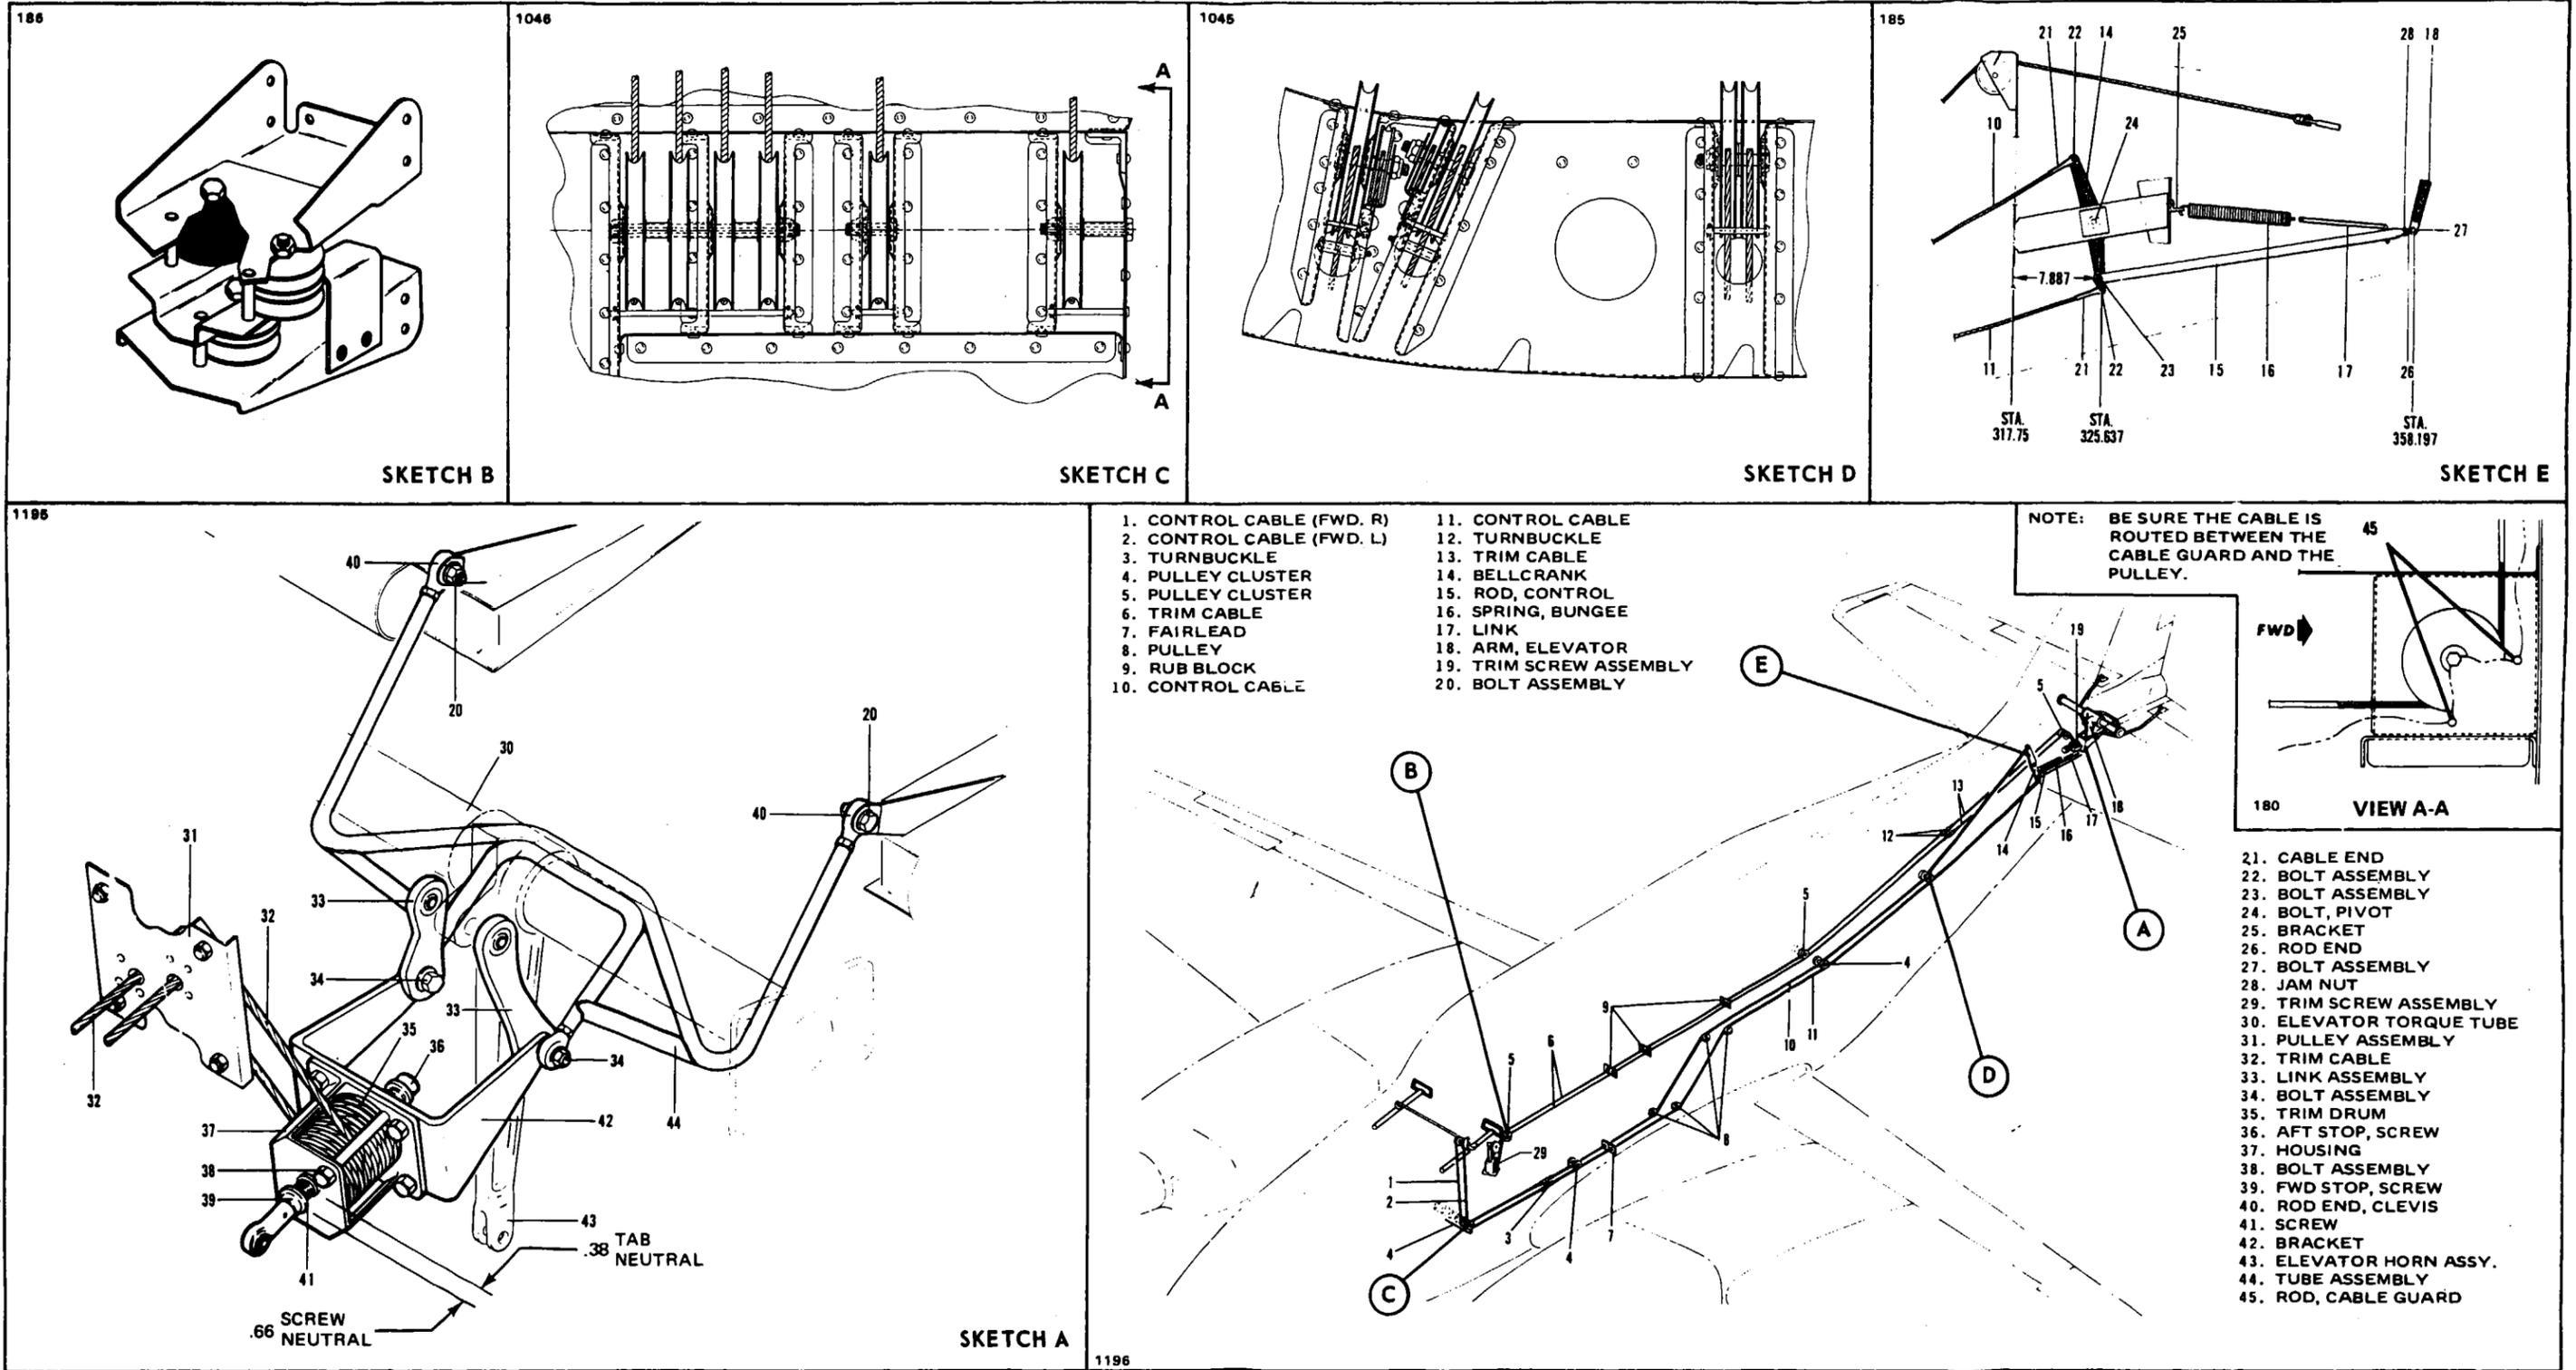

Figure 5-5. Elevator and Elevator Trim Controls
5-21. REMOVAL OF ELEVATOR CONTROL CABLES. (Refer to Figure 5-5.)
5-22. INSTALLATION OF ELEVATOR CONTROL CABLES. (Refer to Figure 5-5.)
1. Connect the cables (10 and 11) to the elevator bellcrank (14) ascertain that cable (10) is connected to the top of the bellcrank.
2. Draw the cables forward through the fuselage as shown in Figure 5-5.
4. Install the cable guard pins for cable (10) at stations 121.38, 153.35, 192, 242 and 276.
5. Install the cable guard pins for cable (11) at stations 121.38, 160.20, 203, 242 and 276.
5-23. RIGGING AND ADJUSTMENT OF ELEVATOR CONTROLS. (Refer to Figure 5-5.)
5-24. REMOVAL OF ELEVATOR BELLCRANK ASSEMBLY. (Refer to Figure 5-5.)
5-25. INSTALLATION OF ELEVATOR BELLCRANK ASSEMBLY. (Refer to Figure 5-5.)
5-27. REMOVAL OF FORWARD ELEVATOR TRIM ASSEMBLY. (Refer to Figure 5-5.)
5-28. INSTALLATION OF FORWARD ELEVATOR TRIM ASSEMBLY. (Refer to Figure 5-5.)
5-29. REMOVAL OF REAR ELEVATOR TRIM ASSEMBLY. (Refer to Figure 5-5.)